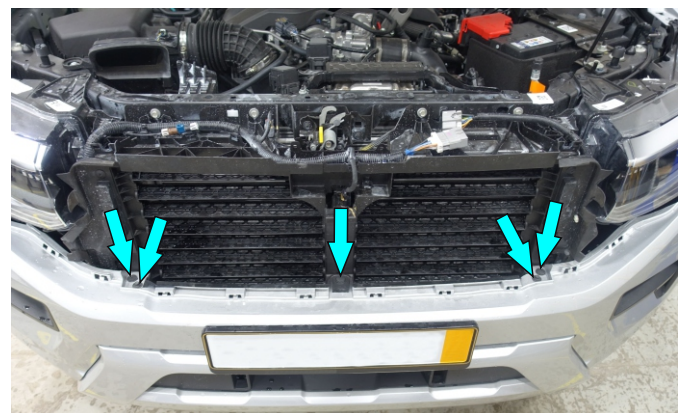

Fig.12
12. Remove plastic clips, unscrew bolts and remove factory bumper (fig.12).